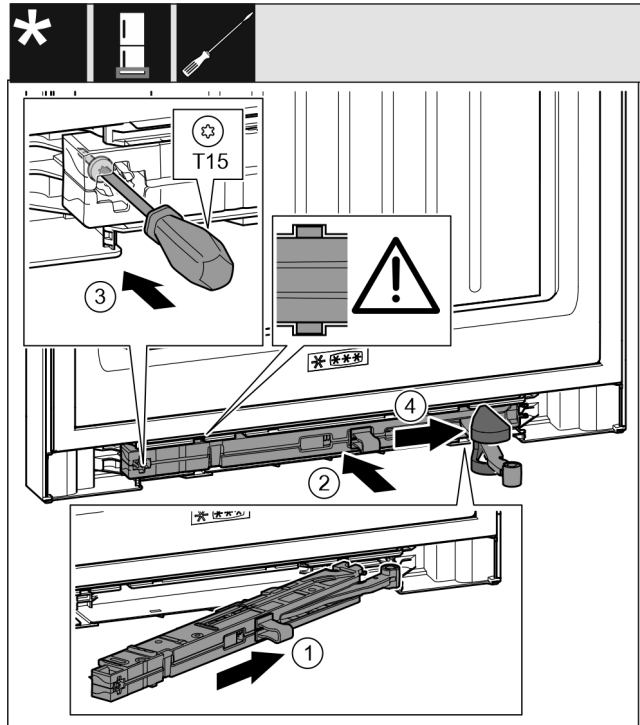

Fig. 49
- ▶ On the swap bearing block side, slide the closing damper unit *Fig. 49 (1)* into the recess at an angle up to the stop.
- ▶ Push the closing damper unit *Fig. 49 (2)* into the recess completely.
- ▶ Use a screwdriver to tighten the screw *Fig. 49 (3)*.
- ▶ Push the cover *Fig. 49 (4)* over the joint.